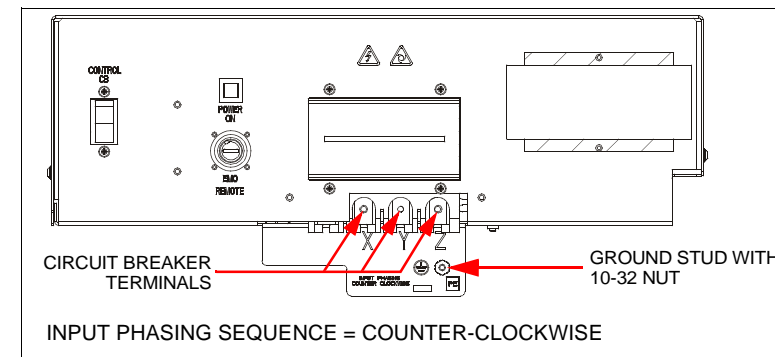

Figure 4: System Circuit Breaker Power Cable Connections
- 7) Connect the power cable to the **system circuit breaker**. See Power Cable Connections, Figure 1G, and Figure 4.